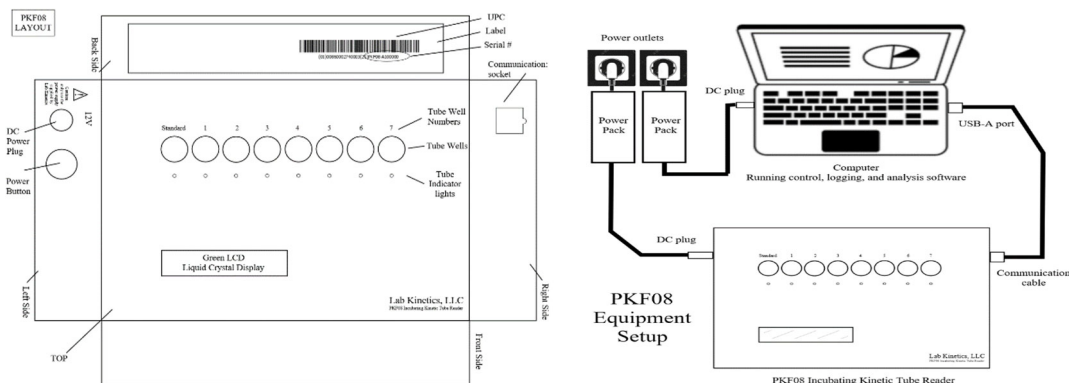

Figure 2: Display of PKF08 instrument and computer connection
- o Communication connection (hardware) – Communication cable is included. USB-A end goes to the USB port of the computer, USB-B end goes to the PKF08 – see Figure 2.